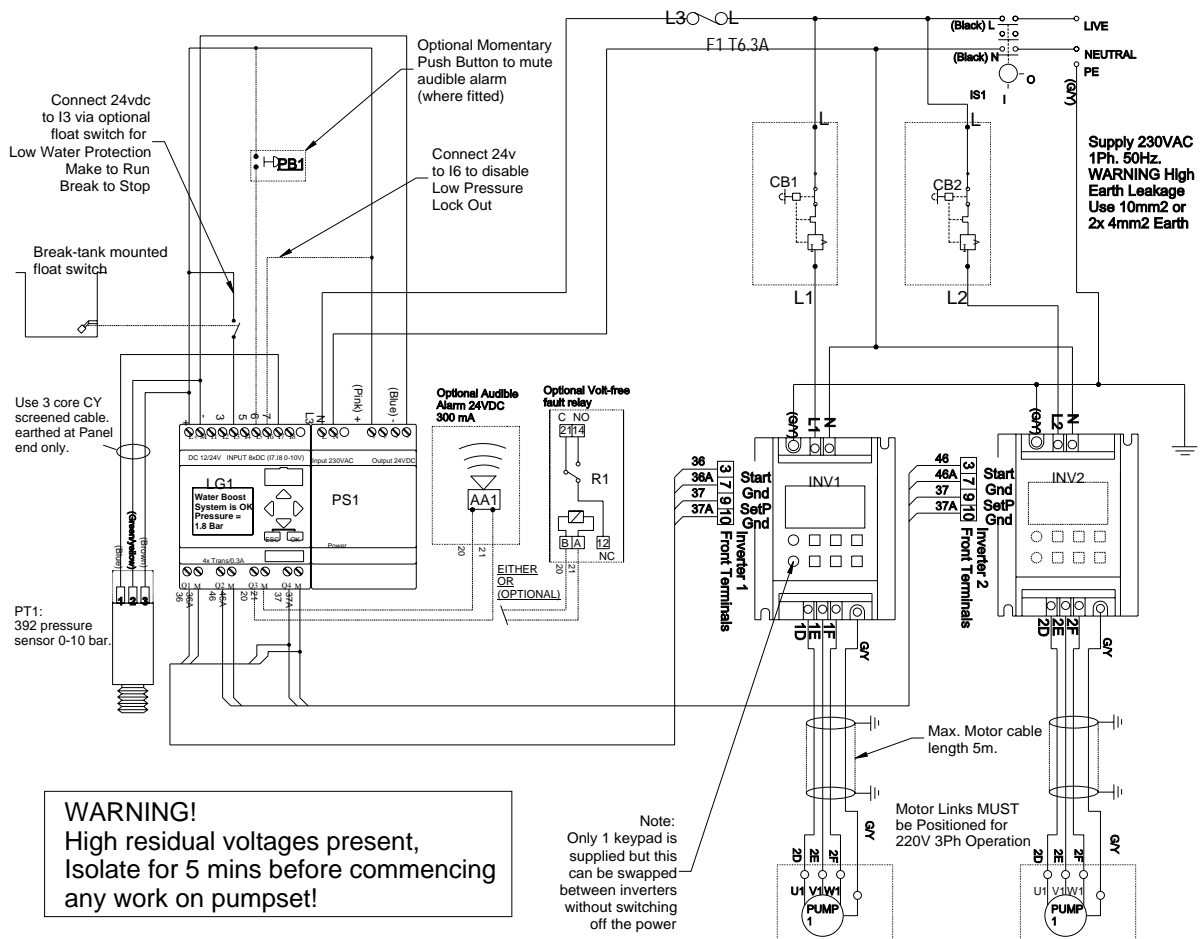

Fig. 1.3 Typical example of electrical connections
- 1.3.6.3 Connect incoming electrical mains supply to identified terminals on isolator IS1 in panel (see fig. 1.3). Ensure voltages and frequency indicated on the wiring diagrams correspond with supply mains data and that the supply fuse type & rating is correct for the total current rating of the equipment.
- 1.3.6.4 Where optional remote fault signal is required, connect volt free terminals in control panel to remote panel. See fig 1.3 and wiring diagram provided.